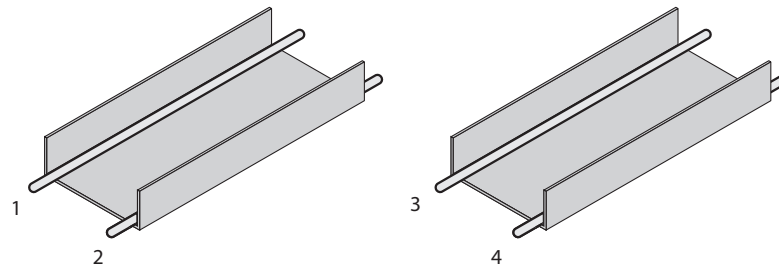
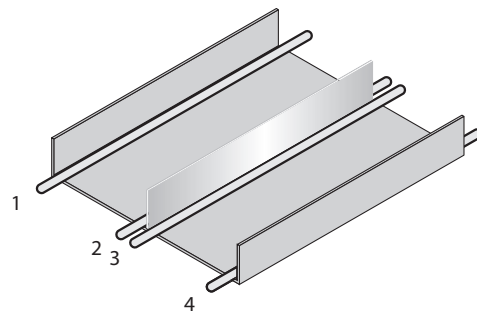

Figure 15: Ideal laying - Place cables in different cable channels
Figure 16: Alternative laying – Separate cables with metallic separators
- Cables in groups 1, 2 and 3, 4 must be routed in different cable channels or metallic separators must be used see Fig. 15 and see Fig. 16. This applies particularly if cables of devices with a high level of radiated emission, such as frequency converters, are laid parallel to sensor cables.